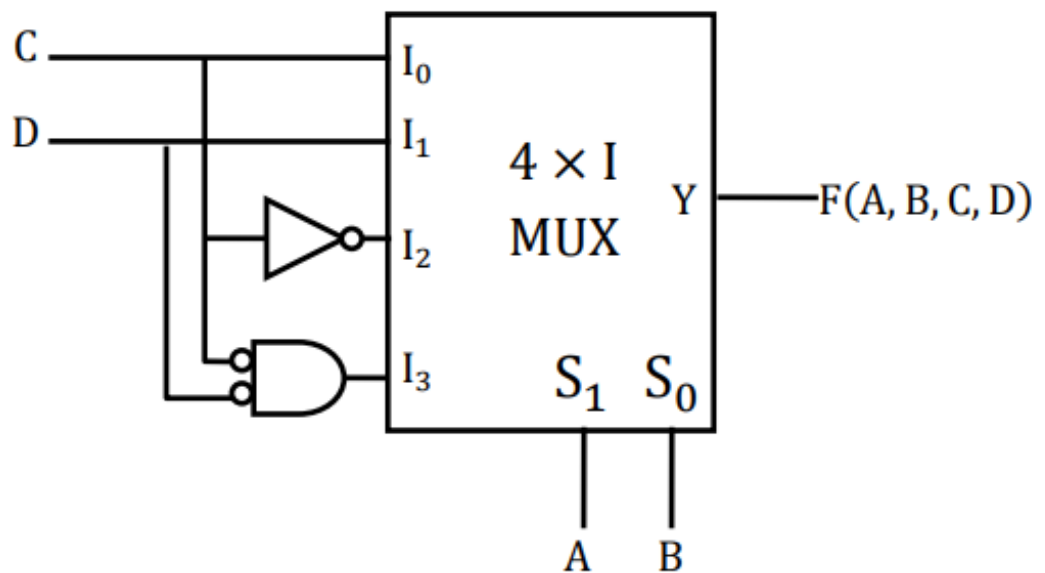

Figure 3.5:
18. Find the Boolean logic realised by the following circuit in Fig. 3.5 (GATE EC 2010)